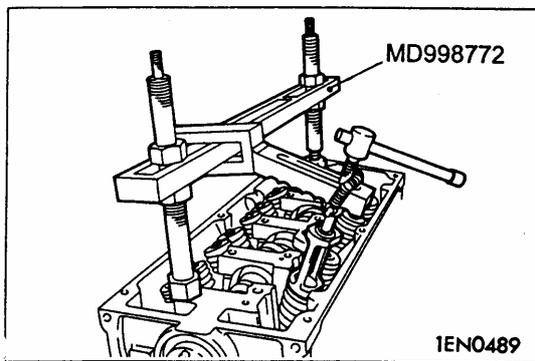
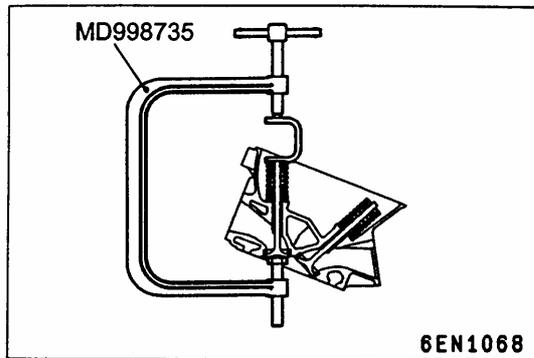

Fig.4-29
Fig.4-30
To reinstall easily, mark the cylinder number and the position on the valve, spring and other parts that have been removed, make sure the parts won't be lost, see Fig.4-29 and Fig.4-30.
(3) THE INSTALLATION OF THE RETAINER LOCK (see Fig.4-29, Fig.4-30)
(4) THE INSTALLATION STEPS OF CYLINDER HEAD BOLT